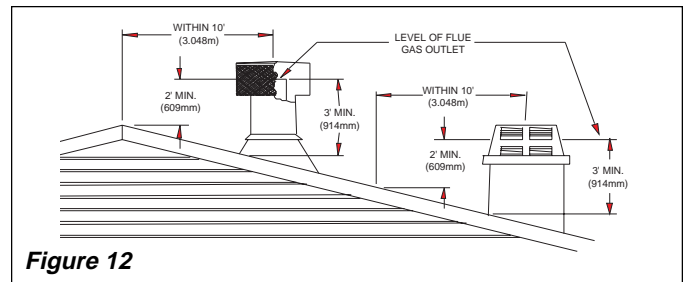

Figure 12
STEP 5: Add the next sections of pipe until the end penetrates the roofline. Check to see that proper clearances are maintained. Extend chimney by adding sections of double wall pipe until pipe is a minimum of 30 inches above highest point of roof cutout. Termination and chimney must extend a minimum of 36 inches above highest point where it passes through roof. See 10' rule (Figure 12).
All chimney terminations must extend a minimum of 3 feet in height above the highest point where it passes through the roof and must be at least 2 feet above the peak of the roof if within a horizontal distance of 10 feet from the peak (see Figure 12).